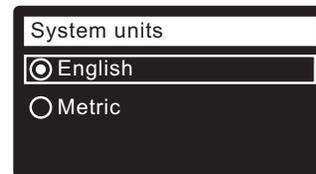

FIG. 21
- SYSTEM UNITS** If the desired system already has a dot next to it (See Figure 21), go to Step 18. Otherwise, press the DOWN (▼) or UP (▲) buttons to scroll to the desired system, then press the SELECT (O) button to choose it.
- Press the SELECT (O) button.